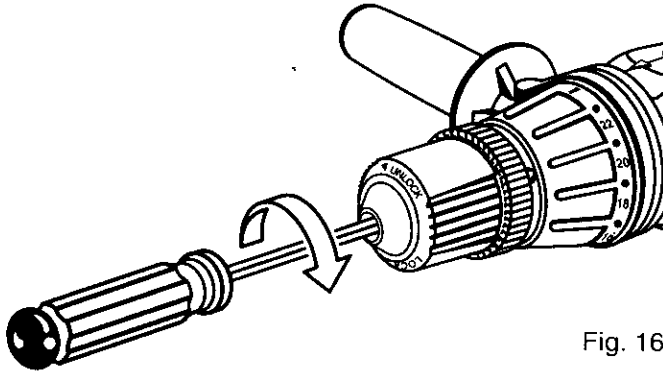

Fig. 16
- Open chuck jaws and remove hex key wrench. Remove the chuck screw by turning it in a clockwise direction. *See Figure 16.* **Note:** The screw has left hand threads.